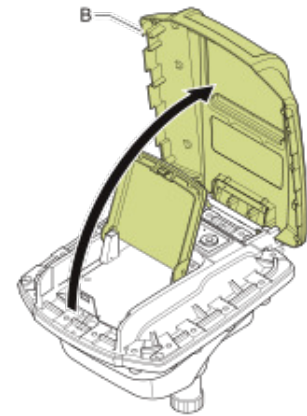

Figure 2.15: Cover B.
- Open and remove cover B as shown in Fig.2.15.